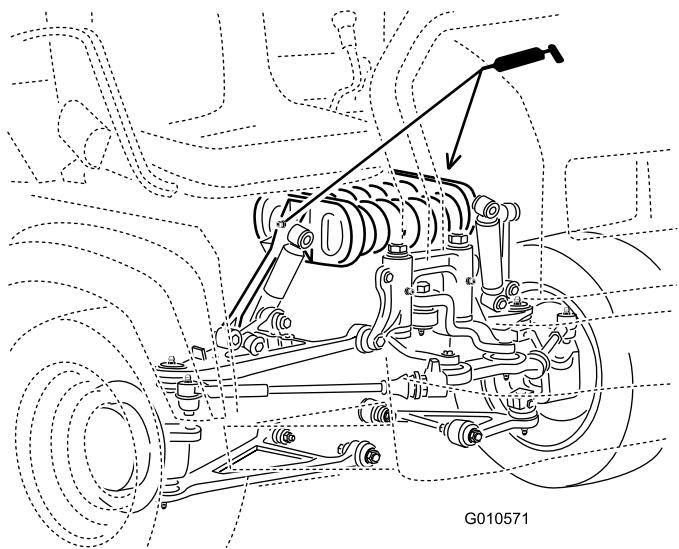

Figure 29
- Spring tower (2);** refer to Figure 29